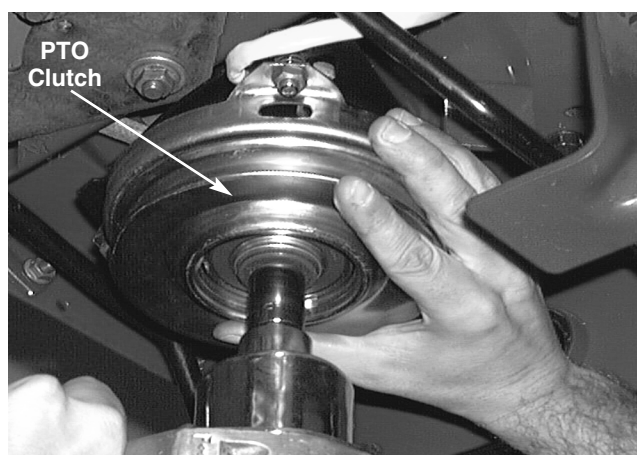

FIGURE 4.
8. Grasp the electric PTO clutch and remove the hex bolt securing it to the crank shaft using a 5/8 socket. See figure 4.